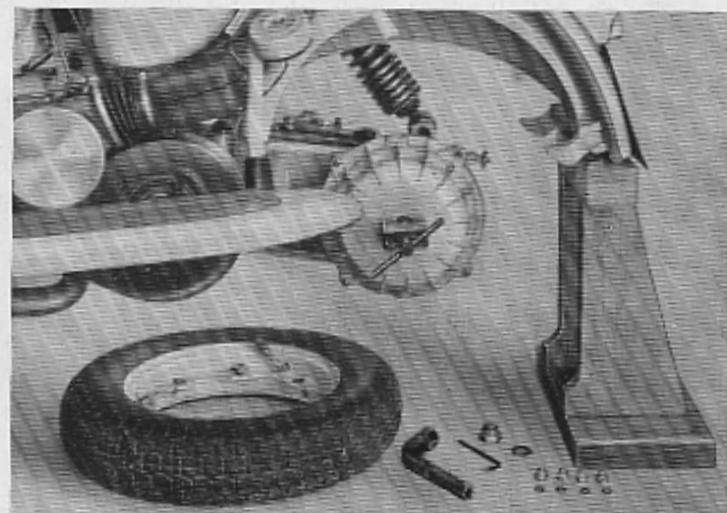

Fig. 12
**NOTE** - To remove the rear wheel and shock absorber the rear of the machine must be raised and rested on a support (wooden or otherwise) as used in Operation 15 (see figure 12).
- 16 To remove rear wheel: unscrew dome nuts and withdraw rim, unscrew the wheel nut (27mm spanner) and withdraw wheel hub by means of extractor 59826 (See Fig. 12).